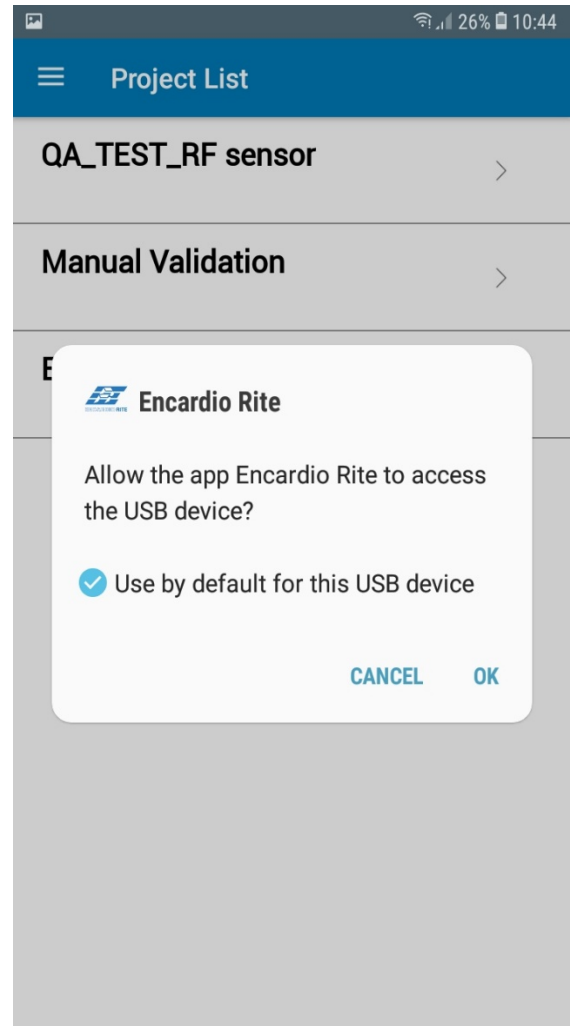

Figure 3-41
- 2. Connect the Android smartphone to the Node via an OTG adapter (Refer to figure 3-41). A prompt window will appear asking to access the USB device. Then Click OK as shown below in figure 3-41.